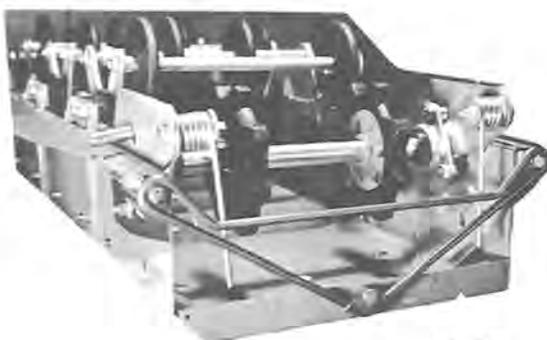
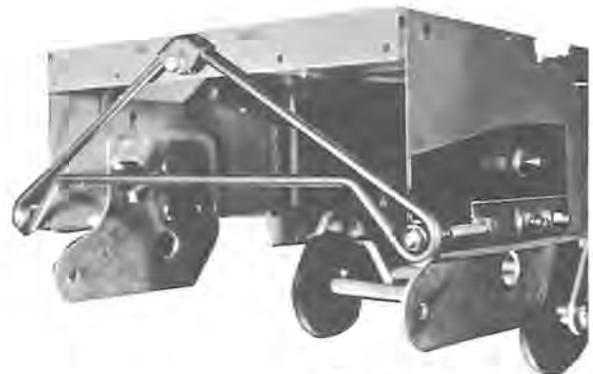

Figure 9-39
Figure 9-40
4. With spring hanging loose (see Figure 9-39) install axle and sprocket assembly in machine with screws through slots in frame. Install adjusting brackets over screws (see Figure 9-40) and attach washer and nuts loosely.
5. Install rear frame support (see Figure 9-39) with screws and nuts provided. NOTE: Locknut on track adjusting screw must be salvaged from old style.
7. With spring still loose, shove axle up until it hits stop (see Figure 9-39). Measure distance from inside of mounting plate to inside of sprocket. This distance should be equalized on right and left sides. When equal, tighten screws on each side of flangette bearing retainer. NOTE: It will be possible to tighten only two screws on each side while axle is pushed up to stop position. When these are tight let axle down and tighten other screws. Be sure that there is no binding between mounting plate and movable arm. Make certain that axle turns freely.